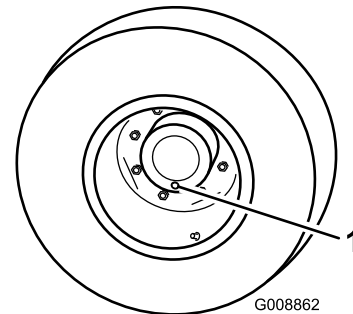

Figure 43
1. With the machine on a level surface, position a wheel so that one of the check plugs is at the lowest (6 o'clock) position (Figure 43).